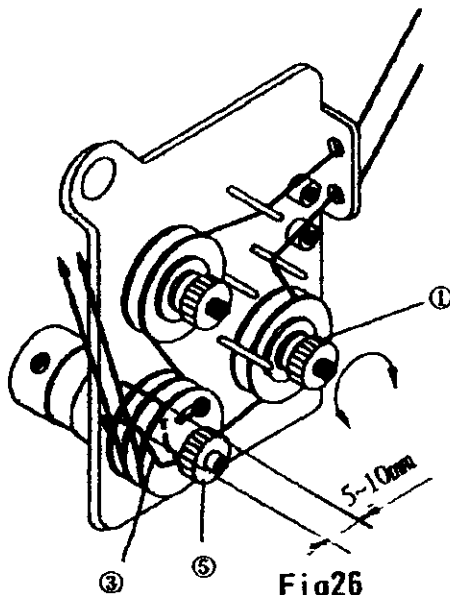

Fig26
- 1) Turn the nut of the thread tension regulator (1) to adjust. The upper thread tension if necessary during sewing as shown in fig. 26
- 3) The spring (3) adjustment limit is about 5mm-10mm as shown in fig. 26. The spring tension is adjusted by the tension nut (5)